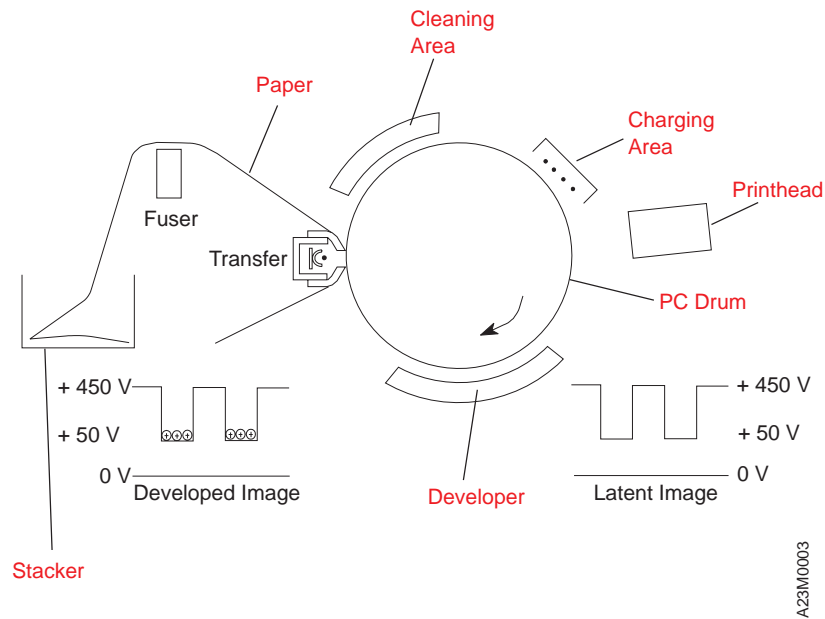

Figure 1. Principles of Electrophotographic Process
The principle of electrophotographic (EP) printing is shown in Figure 1. The electrophotographic print process requires six basic steps: